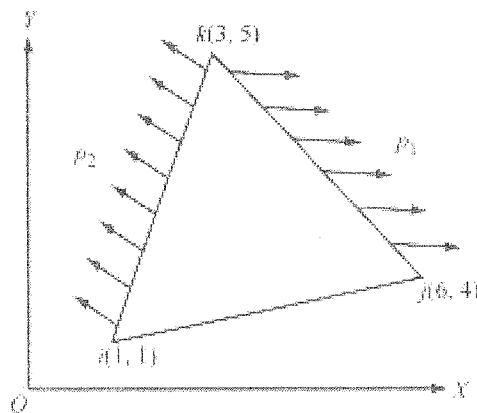

Figure Q4 The coordinates in mm $i(1,1)$, $j(6,4)$ and $k(3,5)$
b) Derive the stiffness matrix and system of equations for the triangular plate shown in Figure Q4 using a CST element. $E=200$ GPa, $\nu=0.3$, thickness=5 mm, $P_1=5$ N/mm² acting on side jk on x direction, $P_2=2$ N/mm² acting on side ik and perpendicular to side ik , Consider plane stress conditions.